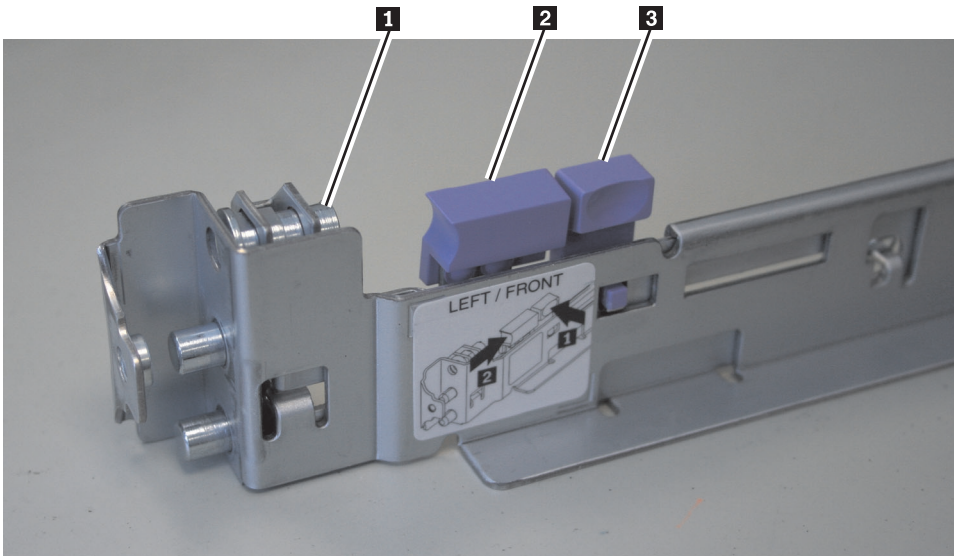

Figure 53. A closed rail-locking carrier at the front of the support rail for the SAN Volume Controller 2145-8A4
1. Ensure that the rail-locking carriers at the front and rear of each support rail are open. The mechanism to open is similar at each end. If a locking mechanism is closed, as shown in Figure 53 (for a front bracket), open it.